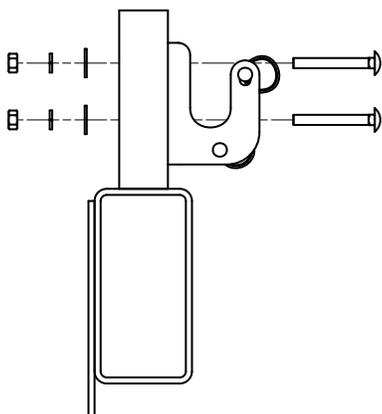

Figure 23-3
3) **Figures 23-3 & 23-4.** For sideboards. Drill a pilot hole and attach with 3/8 x 2-1/2 carriage bolts.